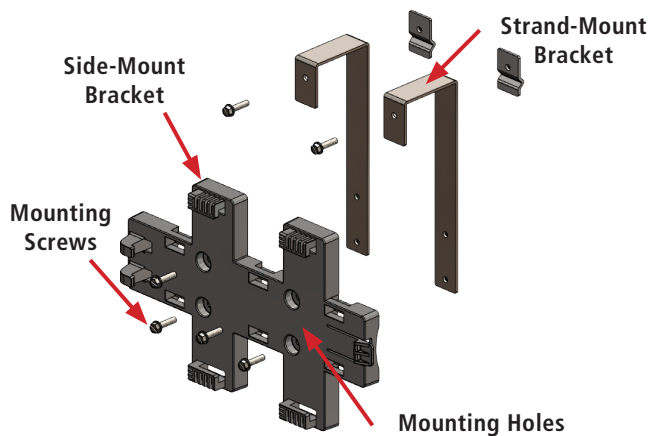

Figure 44
1. Place the enclosure on the slide mount bracket and position the protruding parts just before the sliding guides. (Figure 44)